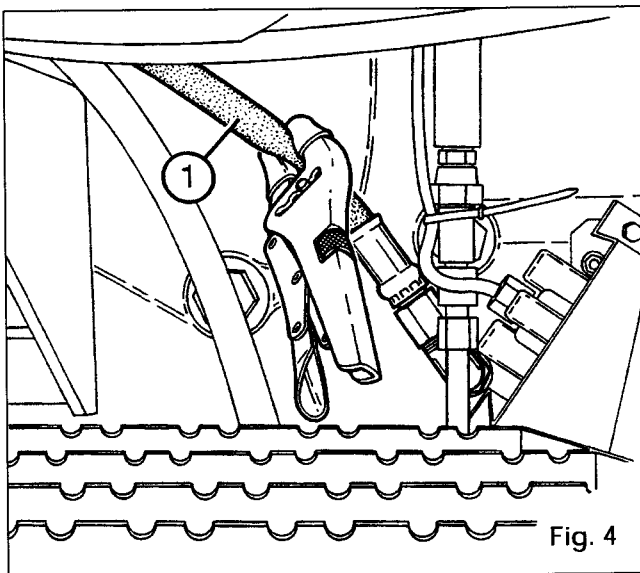

Fig. 4
1. Run the engine at about 1,200 rpm. Correctly identify the return hose (1) located to the front left-hand side of the gearbox and block it with a clamp fitted with suitable protection (Fig. 4).